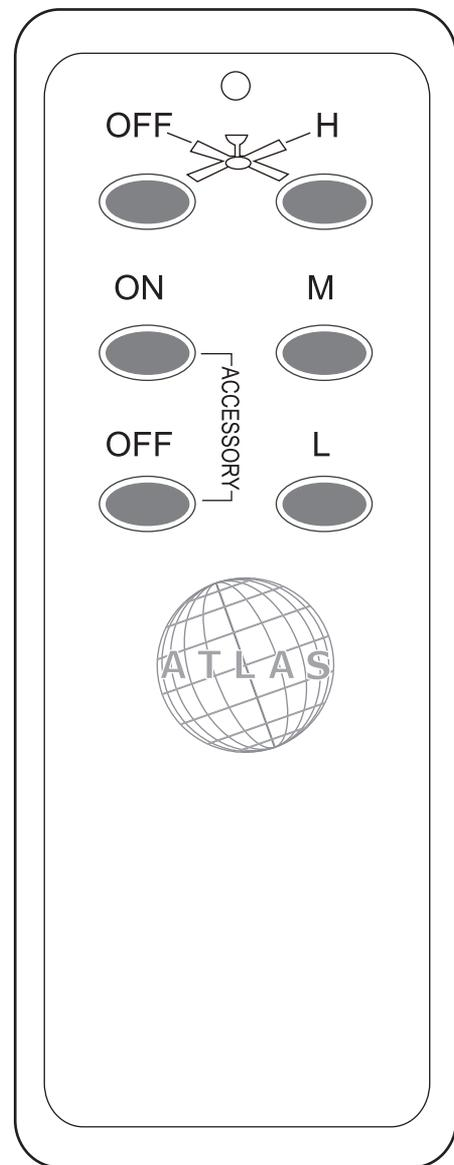

Figure 6
Your DC brushless motor is equipped with an automatically learned type remote control. There are no frequency switches on the receiver; the receiver unit will automatically scan the frequency from the remote control if any changes are made. The frequency settings on the transmitter should be changed only in case of interference or if a second or more ceiling fans with the same type of control system are installed in the same structure. (Fig. 6) (If two fans or more in a house, it is recommended that you not use the factory code settings. Change codes setting to any other combination of dip switch setting to avoid fan interference issues, but users need to do control setting process as below once the code setting is changed. Please refer the "C" "SET" code setting button section.)
A.  **H, M, L** and **OFF** button: (Fig. 6)
a) Select desired frequency from the back of transmitter. (Fig. 6)